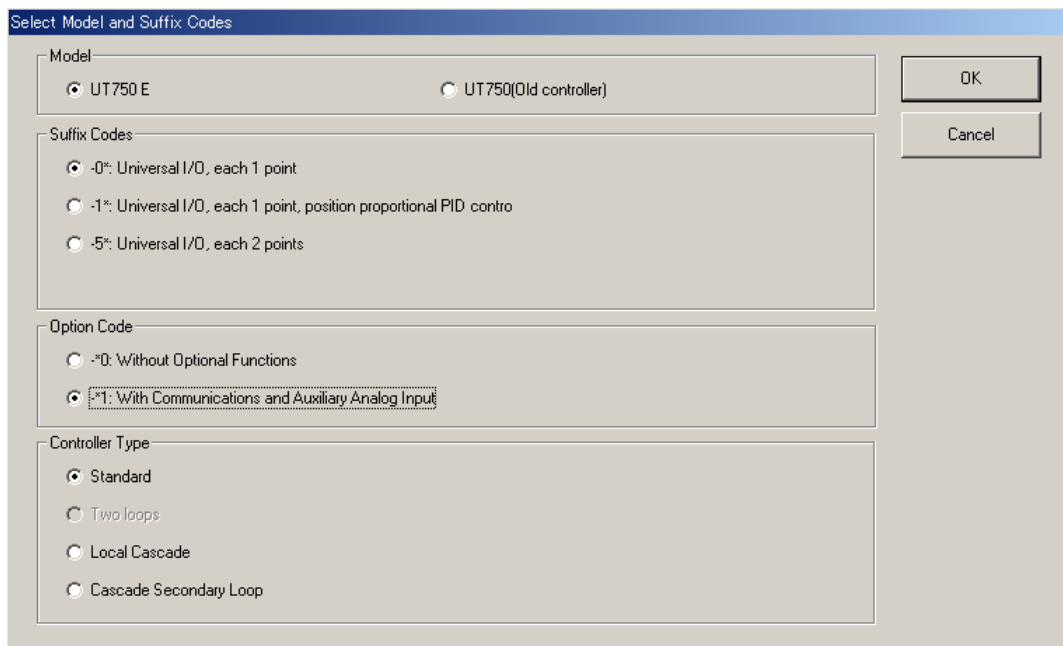

Figure 3.1.4 [Select Model and Suffix Codes] Dialog Box
(7) Click the option button which you want to use, and the <OK> button.
(8) The [Select Model and Suffix Codes] dialog box appears. (Fig. 3.1.4)